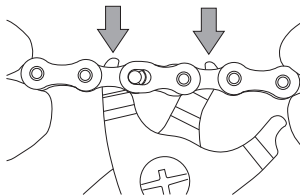

Fig.12
- Insert the false link opening tool with teeth less than 1.8 mm thick into the inner links adjacent to the C-Link™ (Fig. 12).